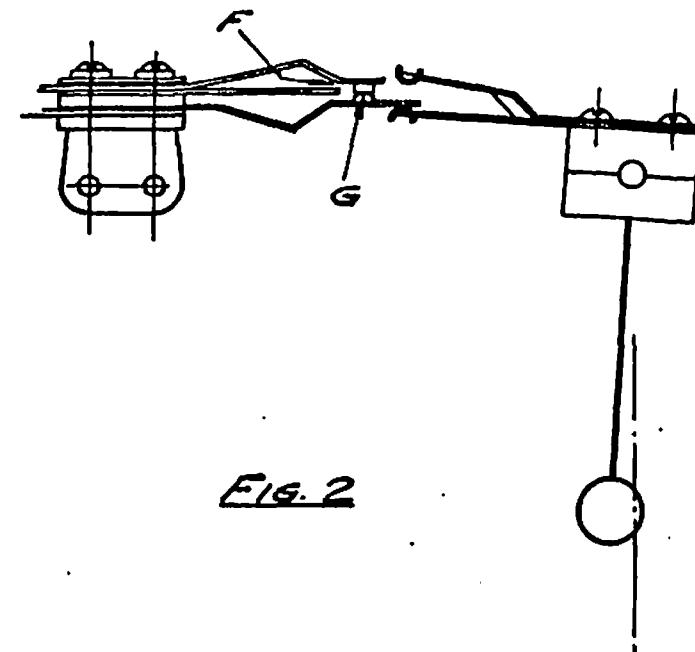
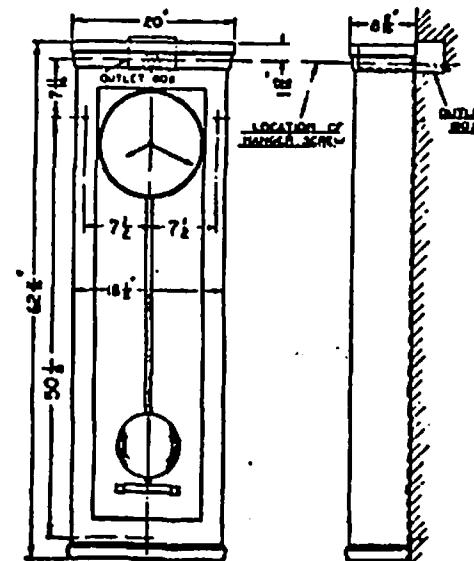

Fig. 2
Fig. 3
Fig. 3 shows the relative position of all parts when the clock escapes as the pendulum swings to the right.
If the pendulum is allowed to swing just enough to escape the clock there will be no contact at "H" Fig. 3, unless the contact fingers stick together and the upper contact finger will just break from its support at "F" Fig. 2, at each swing of the pendulum to the left.
When the pendulum swings normally there will be quite a perceptible break at "F" Fig. 2, and the upper operating finger will touch the lower contact spring at "H" Fig. 3, at each swing of the pendulum.
The usual practice is to place the top of the Master Clock approximately eight (8) feet from the floor. This locates the hands within easy reach for setting and the pendulum in a convenient position for regulation. However, local conditions may necessitate placing the Master Clock at a different height. (See Fig. 3).